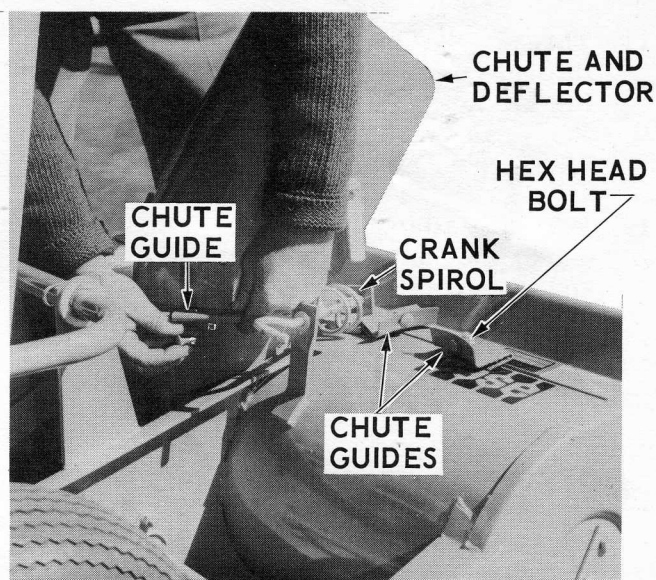

Figure 14.
9. See Figure 14. Individually align the two side chute guides with the square holes in the discharge spout and secure with round head bolts. Install the bolts with the round head at the inside of the discharge spout.
2. Three round head bolts are furnished to attach the chute guides to the discharge spout instead of two as shown in Figure 14. Install the bolts at the two side guides with the round heads to the inside. For ease of assembly, install the front guide bolt with the nut and lockwasher to the inside.